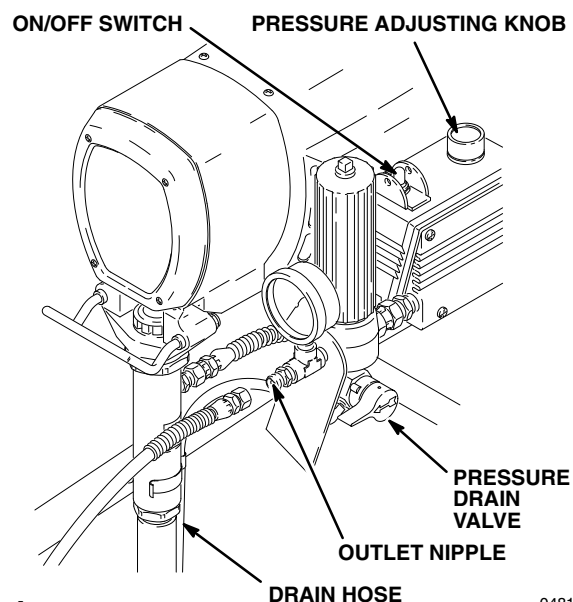

Fig. 4
**NOTE:** See Fig. 4 except where noted.